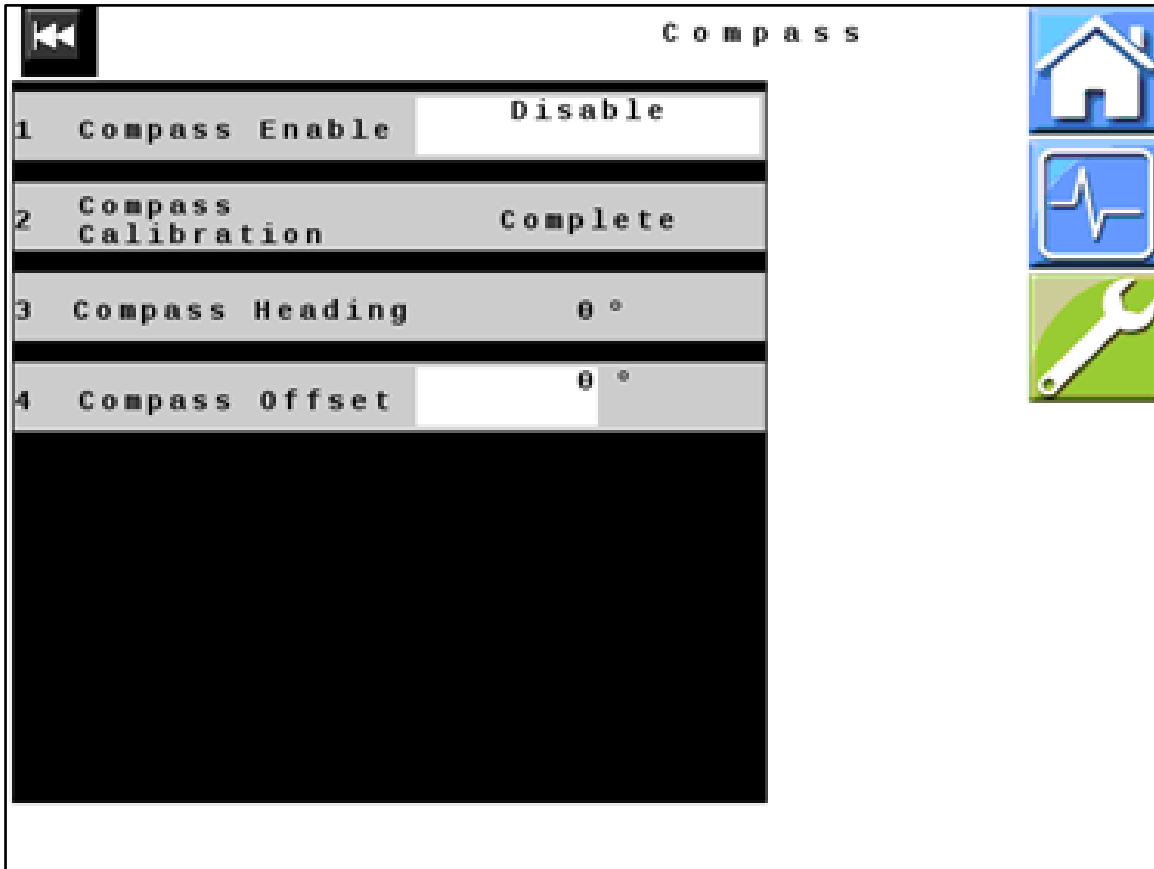

Figure 24 — Compass
43. Figure 24: Verify that all values displayed on your unit match those shown here. Change values if necessary.